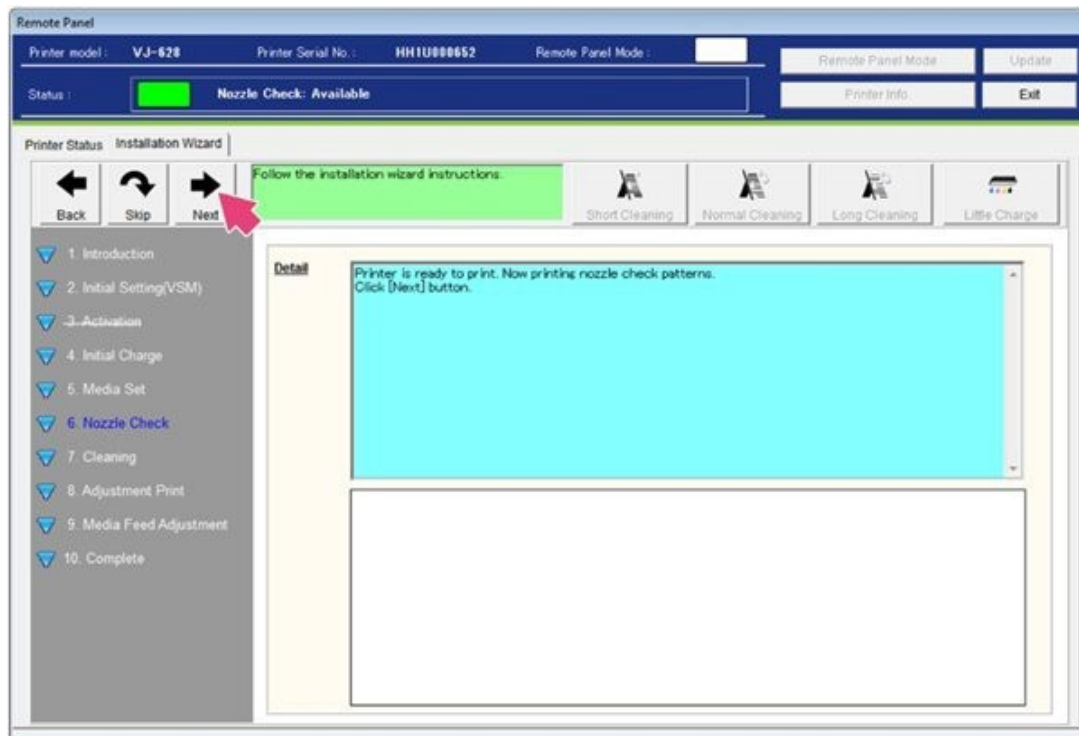

Figure 75
62. Select **Next** to begin the nozzle check printing. See Figure 75.